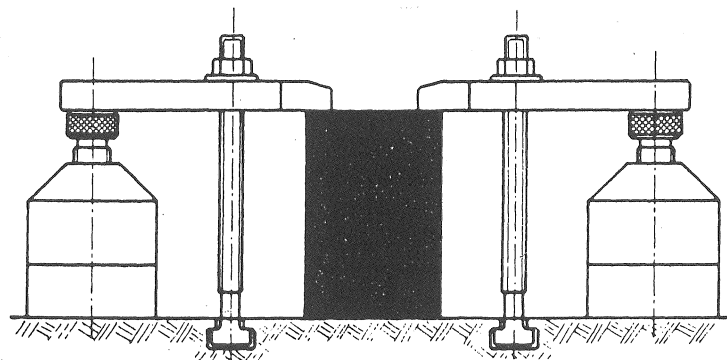

Fig 9
12.5 CLAMPING OF THE WORKPIECE (fig. 9)